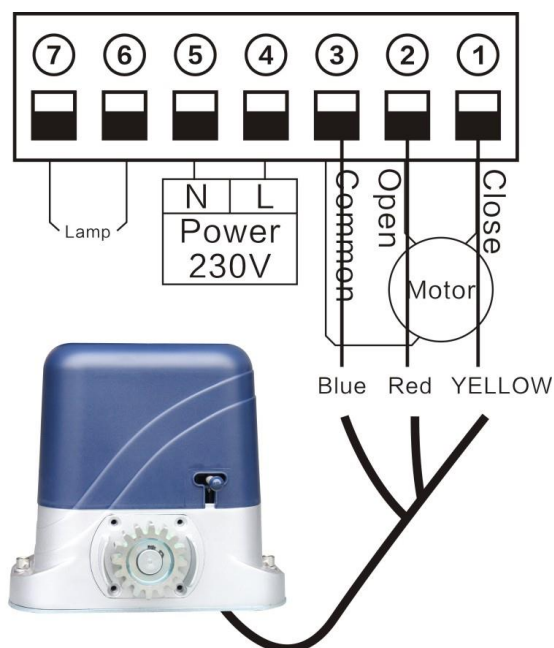

Fig 8
6.2.2. Install the motor on the left of gate. (Please see Fig 8)